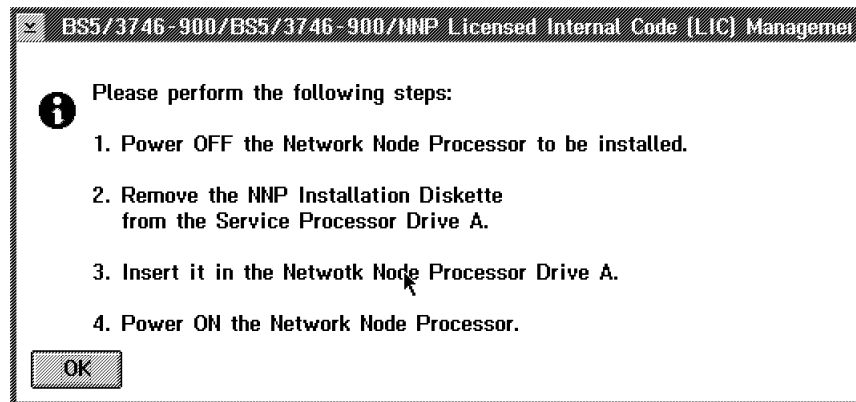

Figure 1-25. NNP-A Licensed Internal Code Management
17. When the process is completed, record the following procedures listed on Figure 1-25, then click **OK**.